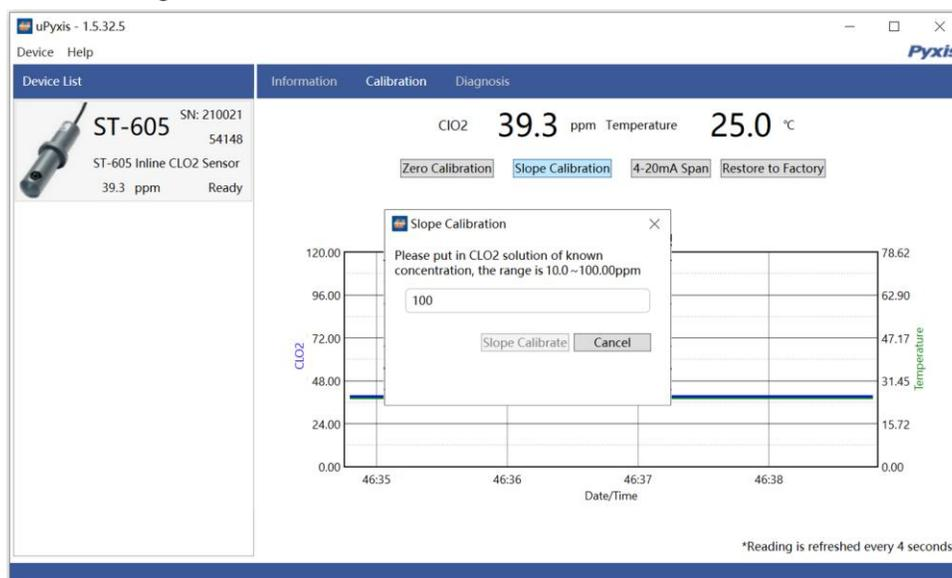

Figure 15.
1. After confirming sensor cleanliness as outlined above, place the sensor into a beaker containing deionized (DI) water.
5. Once the displayed CLO₂ and temperature values are stable, click Slope Calibration to carry out the slope calibration. Tap **SLOPE CALIBRATION** in the uPyxis app. Enter the CLO₂ concentration (10-100 ppm) in the dialog window as in *Figure 15*.